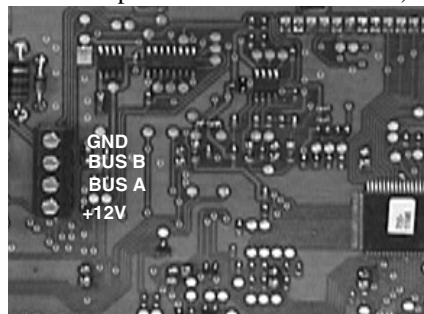

Figure 3. Touchpad Wiring Connections
3. Connect the touchpad +12V, BUS A, BUS B, and GND terminals to the matching panel terminals (see Figure 3 for touchpad terminal identification).